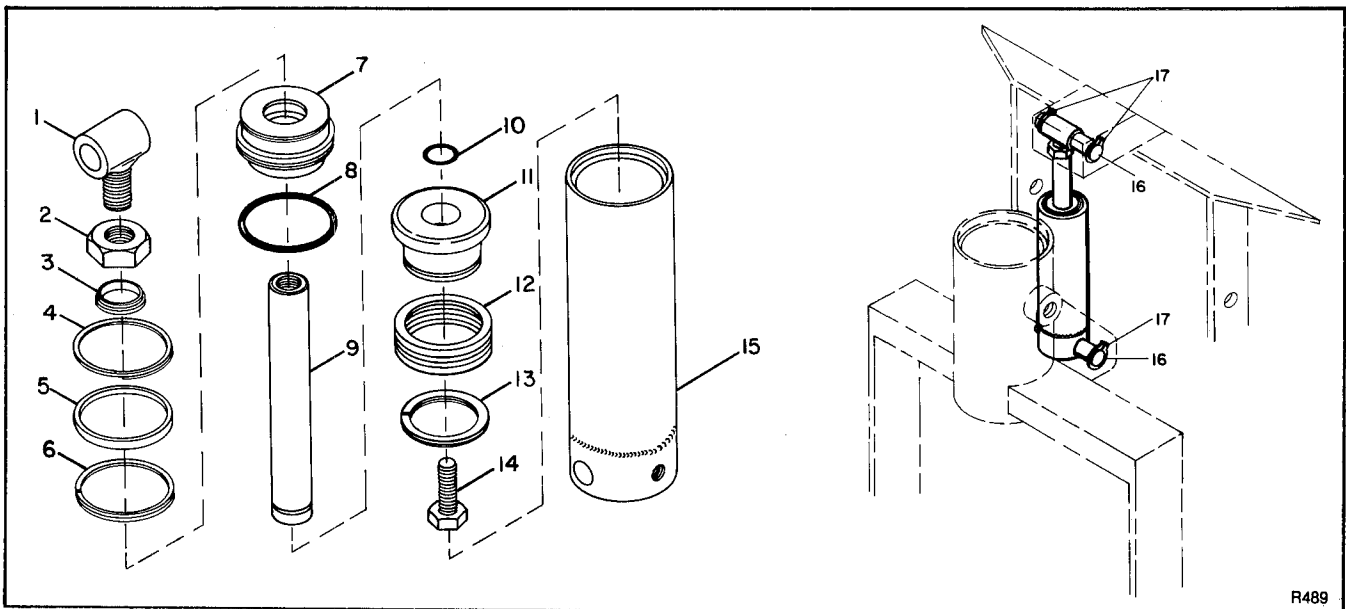
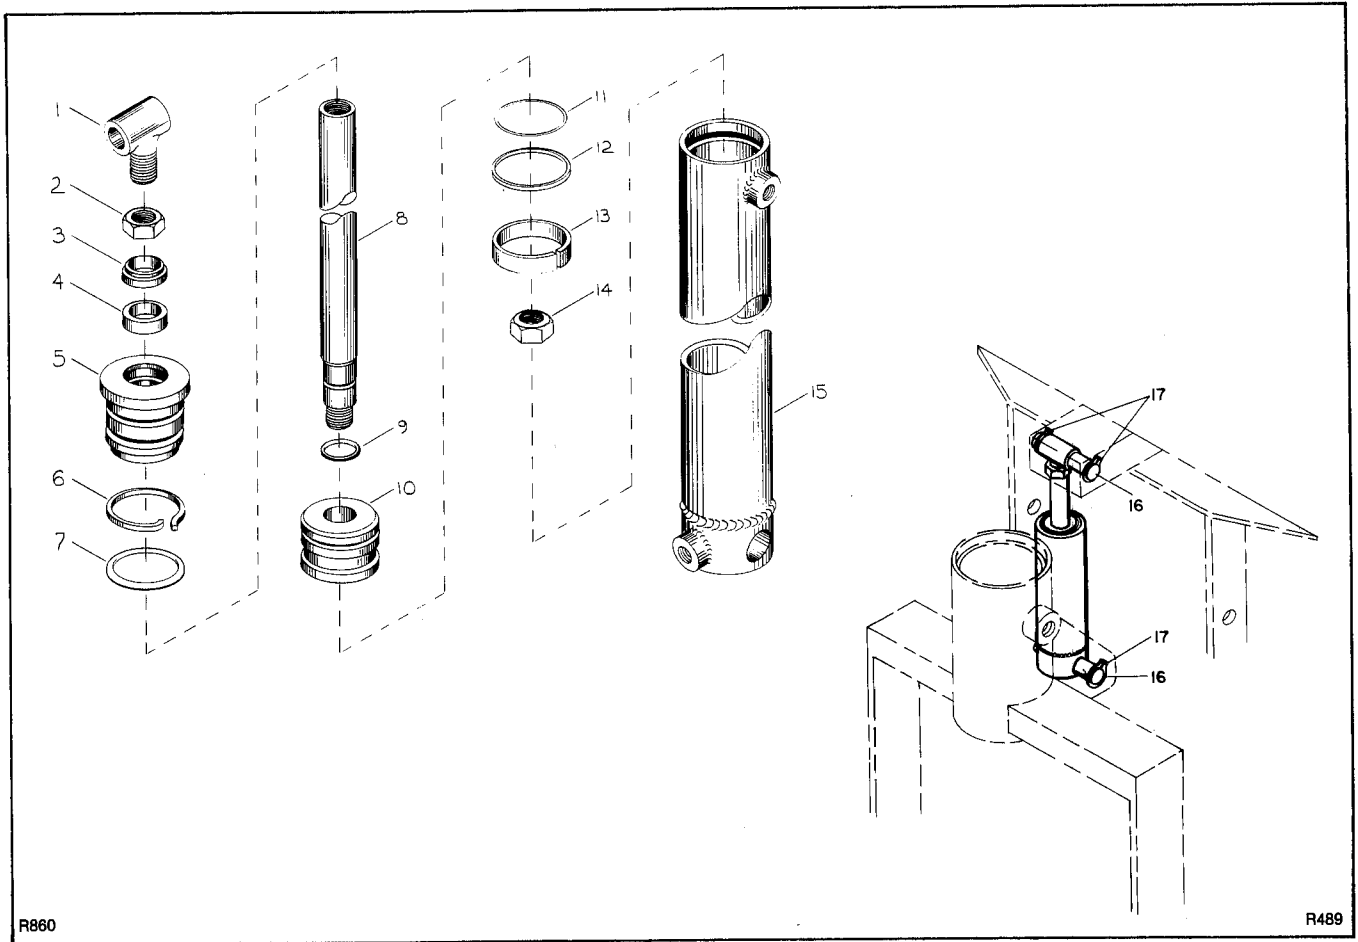

Figure 3-24. Lift Cylinder P/N 047552
Figure 3-25. Lift Cylinder P/N 047564
Two different lift cylinders are used on the PPT-40. When disassembling lift cylinder, be sure to refer to the correct procedure. The cylinder can easily be identified by the inlet and outlet parts. On lift cylinder P/N 047552 (figure 3-24) the parts are flush with the barrel assembly. On lift cylinder P/N 047654 (figure 3-25) the parts protrude from the barrel assembly. Refer to paragraph 3-23b to disassemble lift cylinder P/N 047552, and to paragraph 3-23c for lift cylinder P/N 047654.
5. Remove snap rings (18).
6. Remove top shaft (16) and bottom shaft (17); then withdraw lift cylinder down and away from the lift carriage.
b. Disassembly of Lift Cylinder P/N 047552 (Figure 3-24)
1. Secure lift cylinder in a vise; then remove lock wire (4) and spacer (5).
2. Remove retaining ring (6).
3. Pull out eye (1), withdrawing rod (9), cylinder head (7), and attached parts.
c. Disassembly of Lift Cylinder P/N 047564 (Figure 3-25)
2. Locate hole in side of lift cylinder where lock wire (6) is visible.
3. Rotate gland (5) clockwise and lock wire (6) should exit through hole. Remove lock wire.
4. Pull up on eye (1) to extract rod (8) piston (10) and attaching parts from barrel (15).